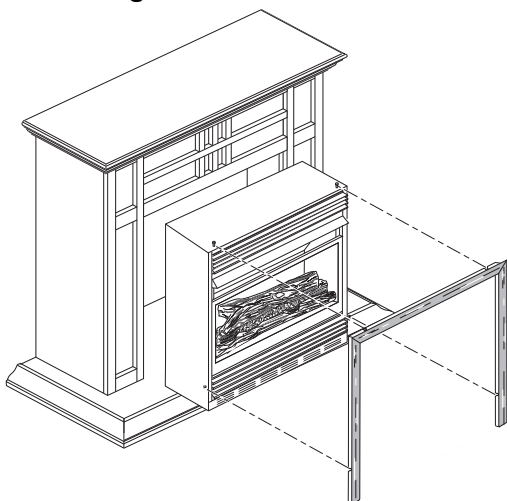

Figure 13 - Installing Fireplace into Mantel Assembly
5. Center cabinet mantel on hearth base (see **Figure 13, Page 15**). Make sure mantel is flush against wall and centered left to right on base.
- Carefully insert fireplace into cabinet mantel (see **Figure 13**). Be careful not to scratch or damage hearth base or cabinet mantel.